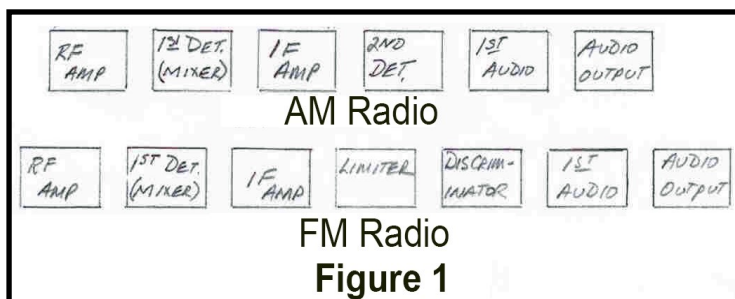

Figure 1 Block Diagrams, AM and FM Radios
This article is intended for those of us who may want to understand a little background information regarding frequency modulation (FM) radio and the repair thereof. FM receivers have several unique circuits that require some functional knowledge of their design and operation. In order to repair FM circuitry the reader should be first quite familiar and skilled with analyzing and repairing AM radios. Only the significant differences between AM and FM, both in FM circuits and repair hints, will be presented in this article. Figure 1 presents typical block diagrams for each type of receiver.
As can be seen from Figure 1 there are two significant differences, both after the IF amplifier stage; the Limiter stage and the Discriminator stage.